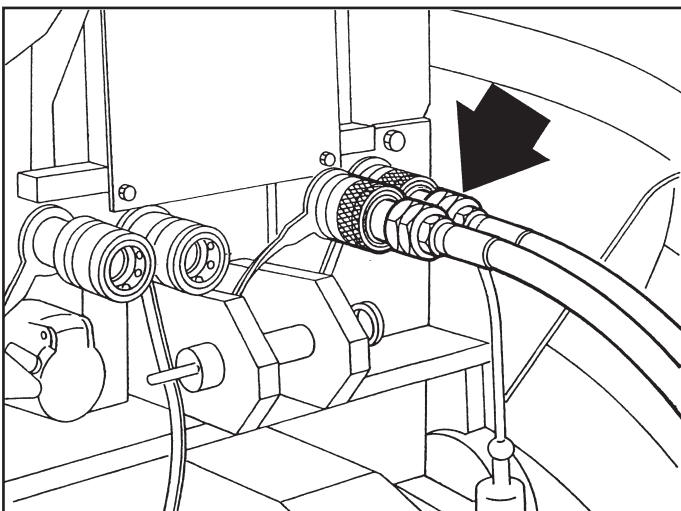

Fig. 1
- Connect any quick couplings of the hydraulic system to the sockets on the tractor (**Fig. 1**) as well as any power socket for any electrical/electronic device (if any) to work.